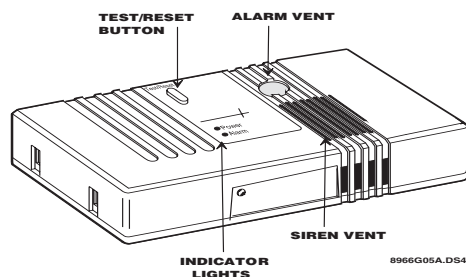

Figure 1. CO Alarm Features
- Ensure the Alarm Vent is free of dust and debris by vacuuming the vent periodically (see Figure 1).
3. Plug in the CO alarm and wait five seconds. Next, press and hold the TEST/RESET button (see Figure 1) for five to seven seconds; the unit beeps, a red alarm light flashes, and a transmitter inside the CO alarm transmits a Tamper/Alarm signal that the panel can receive.
- **Green** — The green light indicates your CO alarm is powered (see Figure 1). It is normal for this light to remain on while the alarm is connected to an electrical source.
- **Red** — The red light indicates your CO alarm is sounding a full alarm (see Figure 1). It is normal for this light to remain on while pressing the TEST/RESET button.